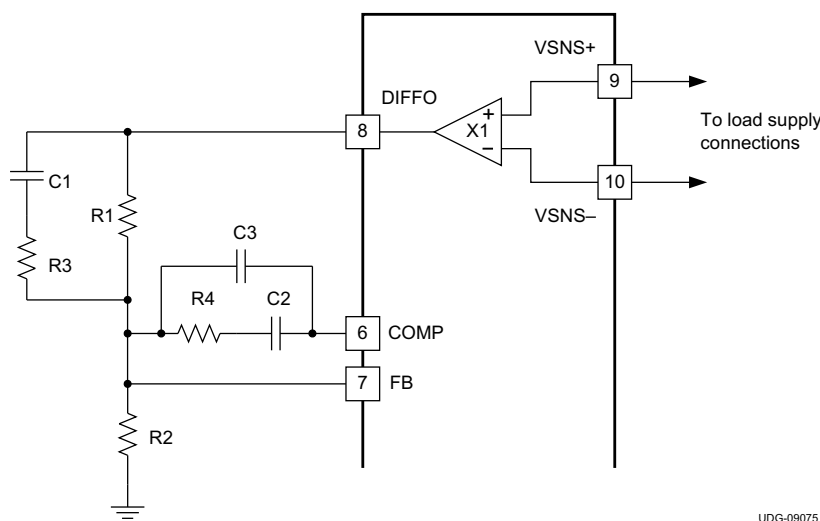

Figure 17. Setting the Output Voltage
The converter output voltage is set in a way that is similar to a traditional analog controller, by using a voltage divider from the output to the feedback (FB) pin. The output voltage must be divided down to the nominal reference voltage of 600 mV. Figure 17 shows the typical connections for the device. Using the unity gain differential voltage sense amplifier, the TPS40400 can regulate the voltage directly at the load. This method provides better load regulation for output voltages lower than 5-V nominal (see *Electrical Characteristics* table for the maximum output voltage of the differential sense amplifier). For output voltages above this level, connect the output voltage directly to the junction of the R1 resistor and the C1 capacitor, leave DIFFO open, and do not connect the VSNS inputs to the output voltage. In this case, it is also recommended to connect the VSNS+ pin to the BP3 pin and the VSNS– pin to GND. The differential amplifier may also be used as a voltage buffer, provided the electrical specifications are not exceeded
The components in Figure 17 that determine the nominal output voltage are R1 and R2. R1 is normally chosen to ensure that the feedback compensation values (R3, R4, C1, C2 and C3) are close to readily available standard values. R2 is then calculated in Equation 1.
The VOUT\_TRIM command adjusts the nominal output voltage of the device. (See the VOUT\\_TRIM \(22h\) command description for the format of this command as used in the TPS40400 device.) The adjustment range is  $\pm 25\%$  from the nominal output voltage. The VOUT\_TRIM command is used to trim the final output voltage of the device without relying on high-precision resistors being used as described in the Figure 17 section. The resolution of the adjustment is 7 bits, with a resulting minimum step size of approximately 0.4%. The output margining function uses this same 7 bit structure so the total combined deviation from the nominal output for margining and VOUT\_TRIM is still limited to  $\pm 25\%$ . Exceeding this range causes errors.
In order for the PMBus output voltage adjustments to function correctly, the VOUT\_SCALE\_LOOP parameter must be set properly. VOUT\_SCALE\_LOOP is a PMBus command (see Supported PMBus Commands) that reports the ratio of the voltage divider that sets the nominal output voltage is. The data for this command is the ratio of the divider that is used to set the output voltage. From Figure 17, VOUT\_SCALE\_LOOP parameter can be calculated using Equation 6.
- R2 and R1 are in consistent units from Figure 17
- (10)